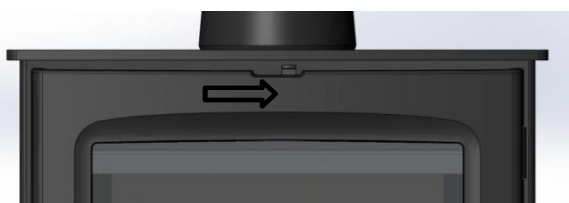

Fig. 8. Fully Open Position
- To fully open the secondary air, slide the control knob to the right, as far as it will go (see figure 8).